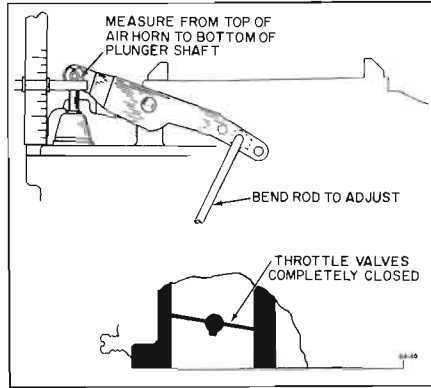

Figure 64-46—Accelerator Pump Adjustment
10. Accelerator Pump Adjustment. Push fast idle cam to full down position and back out throttle stop screw until primary throttle valves can be fully closed. With throttle held closed and pump rod in center hole of lever, measure vertically from under side of pump plunger offset to air horn casting. See Figure 64-46.